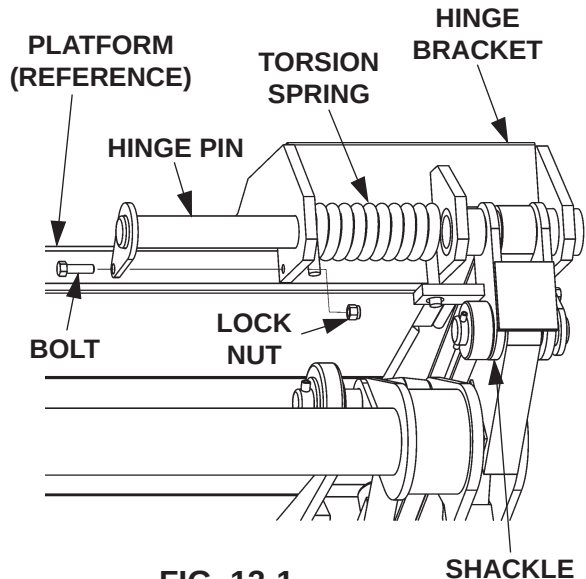

FIG. 13-1
3. Unbolt Hinge Pin from Hinge Bracket (**FIG. 13-1**). Remove bolt and lock nut. Drive the Hinge Pin inboard toward the Shackle with a hammer and pin punch, just enough to free the torsion spring (**FIG. 13-1**). Remove spring from Shackle.